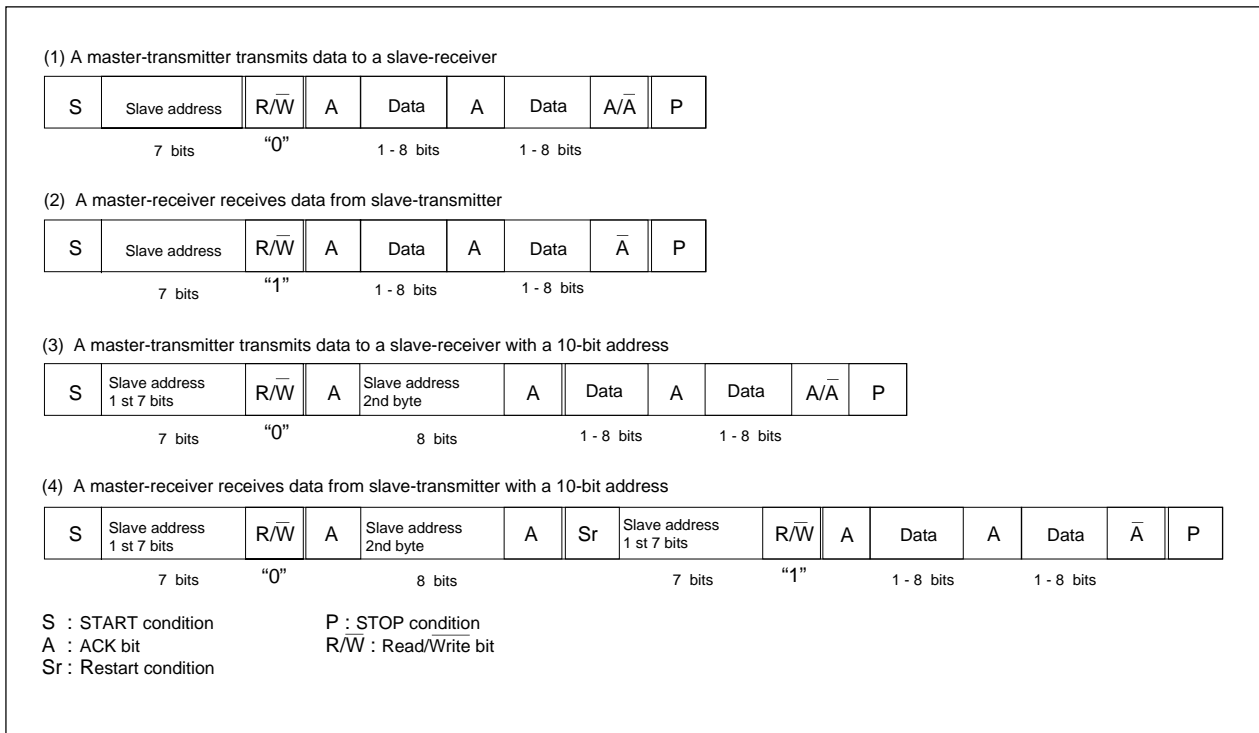

Fig.GC-21 Address data communication format
(1) 7-bit addressing format
To adapt the 7-bit addressing format, set the DBIT SAD bit of the I²C control register 0 (address 0323₁₆, 0333₁₆, 0313₁₆) to "0". The first 7-bit address data transmitted from the master is compared with the high-order 7-bit slave address stored in the I²C address register (address 0322₁₆, 0332₁₆, 0312₁₆). At the time of this comparison, address comparison of the RBW bit of the I²C address register (address 0322₁₆, 0332₁₆, 0312₁₆) is not performed. For the data transmission format when the 7-bit addressing format is selected, refer to Fig.GC-21 (1) and (2).
(2) 10-bit addressing format
When the first-byte address data agree with the slave address, the AAS bit of the I²C status register (address 0328₁₆, 0338₁₆, 0318₁₆) is set to "1". After the second-byte address data is stored into the I²C data shift register (address 320₁₆, 330₁₆, 0310₁₆), perform an address comparison between the second-byte data and the slave address by software. When the address data of the 2 bytes agree with the slave address, write "0" to the ACKBIT to I²C clock control register, to return an ACK. When the address data of the 2 bytes do not agree with the slave address, it does not return an ACK so that makes the finish of the communication by writing "1" to the ACKBIT. If the address data agree with each other, set the RBW bit of the I²C address register (address 0322₁₆, 0332₁₆, 0312₁₆) to "1" by software. This processing can make the 7-bit slave address and $\overline{R/W}$ data agree, which are received after a RESTART condition is detected, with the value of the I²C address register (address 0322₁₆, 0332₁₆, 0312₁₆). For the data transmission format when the 10-bit addressing format is selected, refer to Fig.GC-21(3) and (4).